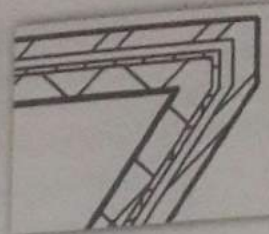

Figure 57: Square off join
- c. **Square Off**: Squares a wall end to 90. This option is not available for walls already joined at 90 (Figure 57).